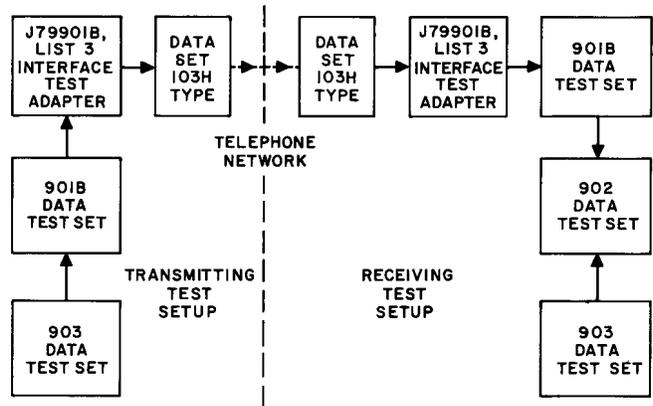

Fig. 1—End-to-End Test—Data Set 103H-Type—Block Diagram
1.11 The block diagram in Fig. 1 shows the equipment arrangement for the end-to-end test using the 901B DTS, 902-type DTS, and 903-type DTS at the two terminals for testing one direction of transmission.